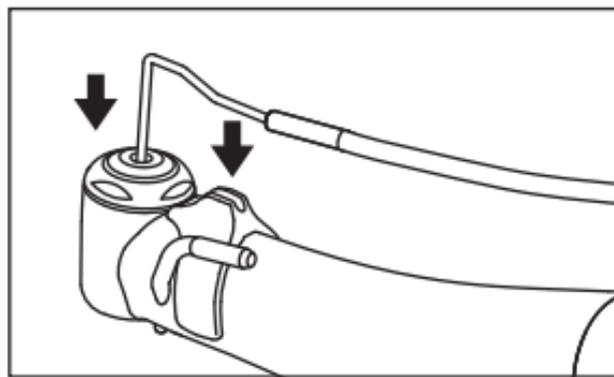

Fig. 7
3) Insert the end of the Internal Spray Nozzle into the hole at the top of the handpiece head, then attach the Internal Spray Nozzle into the slot on the Nozzle Holder. (Fig. 7)